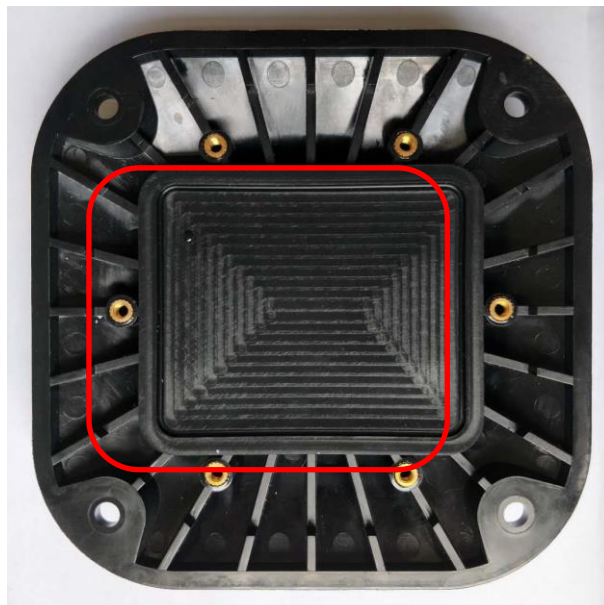

Figure 2
**Step 2:** Remove the middle plastic cover. The plastic cover is shown in the red area in Figure 2.